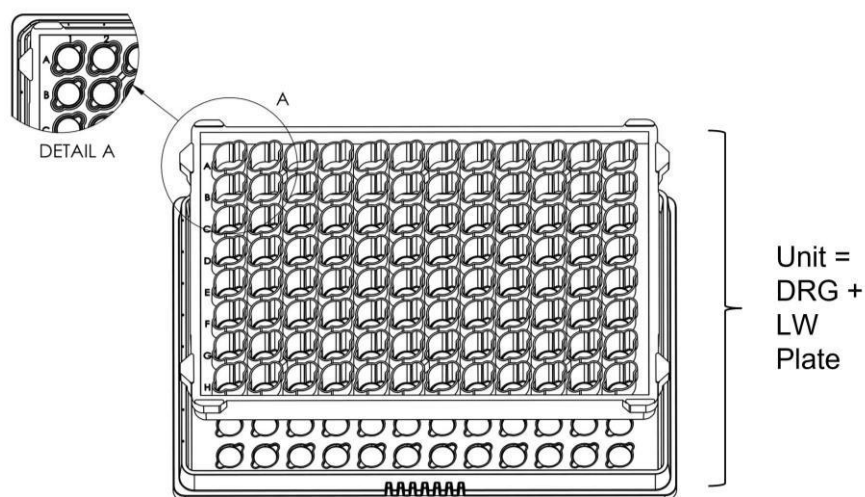

Figure 1. Image illustrating the A1 corner of the DRG (Detail A), and the DRG and LW plate assembly as a 'unit'.
- Align A1 corner of DRG with A1 corner of LW plate (refer to Fig. 1).